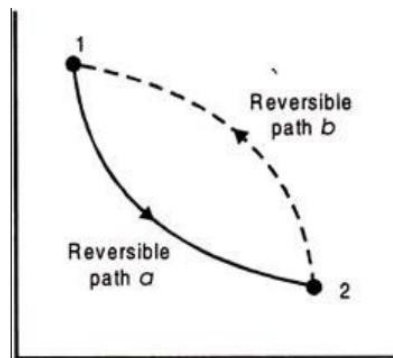

Fig 4.6
Consider a system, which change its state from state point (1) to state point (2) by following the reversible path a and returns from state point (2) to state point (1) by following the irreversible path b as shown in Fig. 4.6.